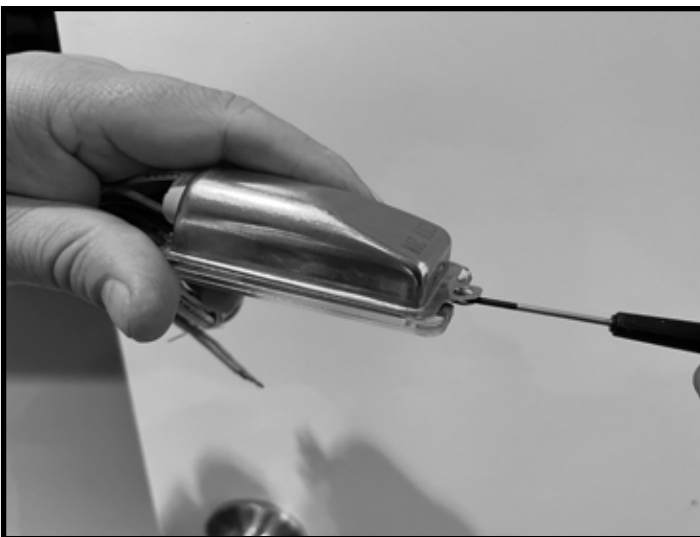

Figure 34: Insert small flat screwdriver.
2. Insert a small flat screwdriver between the glass lens and the light box. Figure 34.